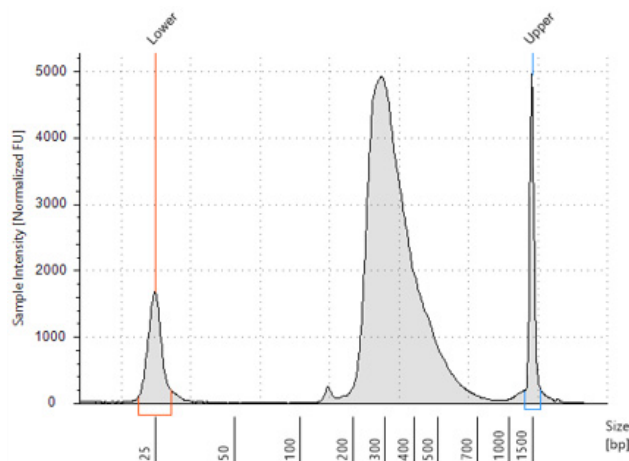
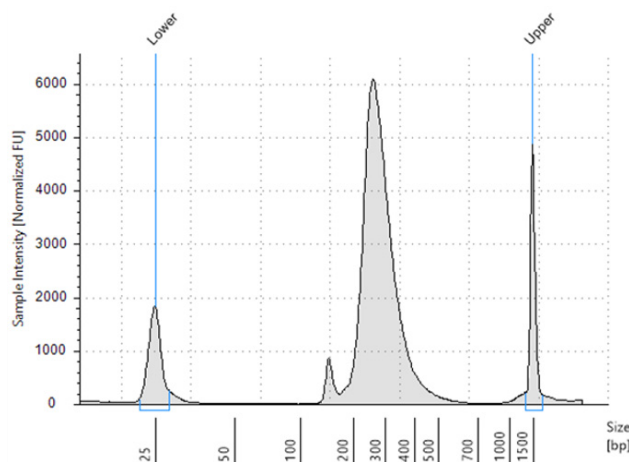

Figure 10 Pre-capture library prepared from high-quality RNA sample (Human Reference Total RNA) analyzed using a D1000 ScreenTape assay
Figure 11 Pre-capture library prepared from a typical FFPE RNA sample analyzed using a D1000 ScreenTape assay
- 16 Verify that the electropherogram shows the expected DNA fragment size peak position (see Table 58 for guidelines). Sample electropherograms are shown in Figure 10 (library prepared from high-quality DNA) and Figure 11 (library prepared from medium-quality FFPE DNA).
The appearance of an additional low molecular weight peak indicates the presence of adaptor-dimers in the library. It is acceptable to proceed to target enrichment with library samples for which adaptor-dimers are observed in the electropherogram at low abundance, similar to that seen in the example electropherogram in Figure 11. See Troubleshooting information on page 169 for additional considerations.
Using manual preparation of the analytical sample plate, you can analyze the cDNA samples on Agilent 2100 BioAnalyzer, Agilent 5200 Fragment Analyzer, or Agilent 4200/4150 TapeStation. Electropherograms obtained using one of these other analysis platforms are expected to show fragment size profiles similar to those shown for the Agilent 4200 TapeStation (see Figure 10 through Figure 11). Table 59. Verify that the electropherogram shows the expected DNA fragment size peak position (see Table 58 for guidelines). Table 59 includes links to assay instruction.